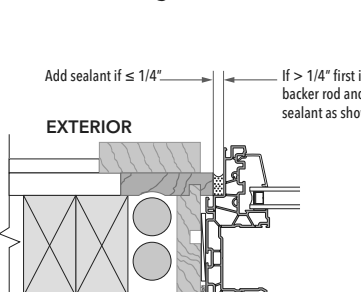

Figure 5
- NOTE: For full frame replacement in brick or siding, where the wall is designed to manage water do not leave gaps or weeps in the interior seal. For pocket replacement, if weep holes are not present in the sill adapter and the existing sill slopes to the exterior, leave weep gaps in the sealant (Figure 5).